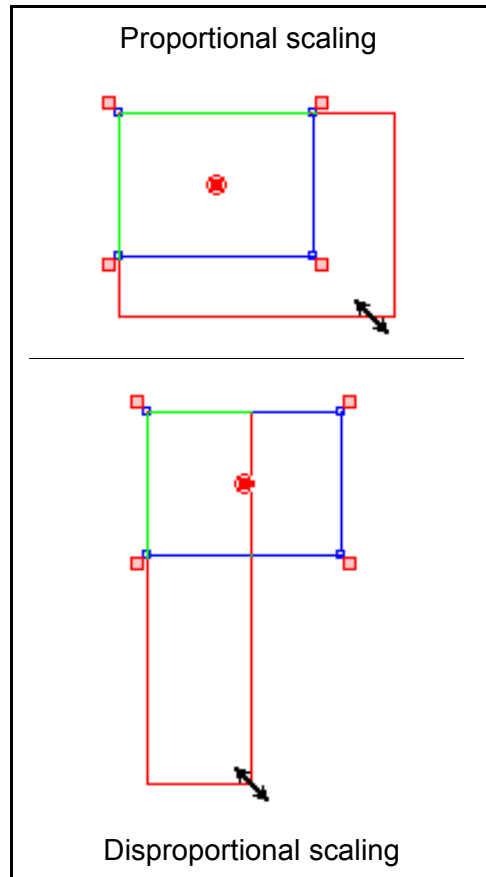

Figure 3.24 *Proportional and disproportional scaling*
*Figure 3.24* shows an item scaled proportionately and disproportionately.